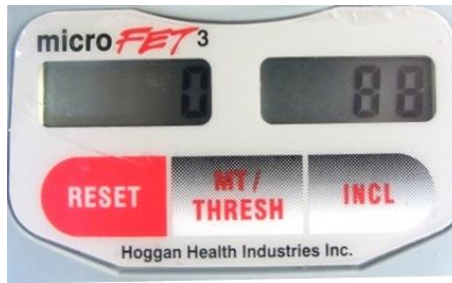

Figure 5. Patient Starting Position Test Result Display Example
- Click red side button a third time to get patient first position angle value (see Figure 5).